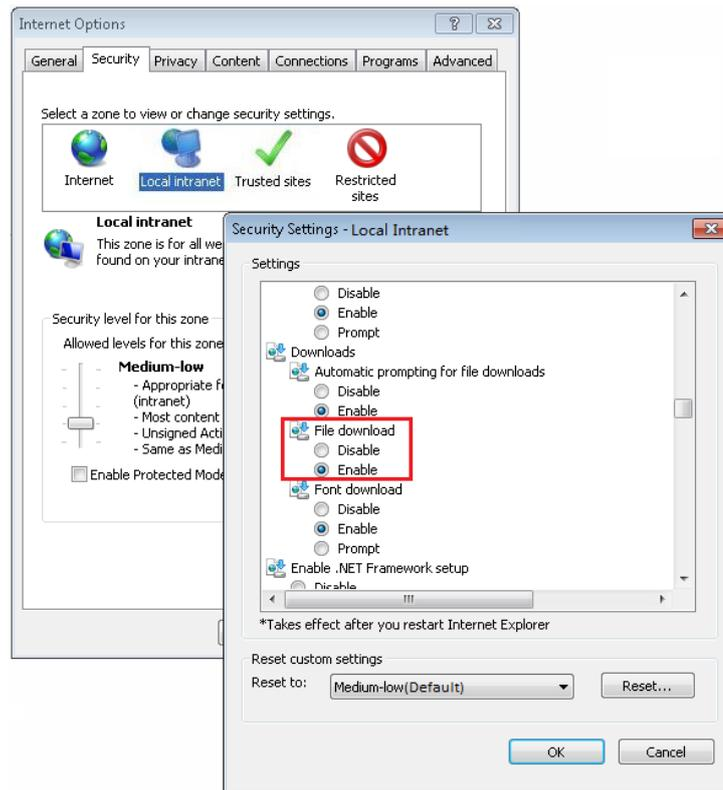

Figure 6-6 Enabling file download
4. In the window shown in Figure 6-6, set **Enable** for **File download**.